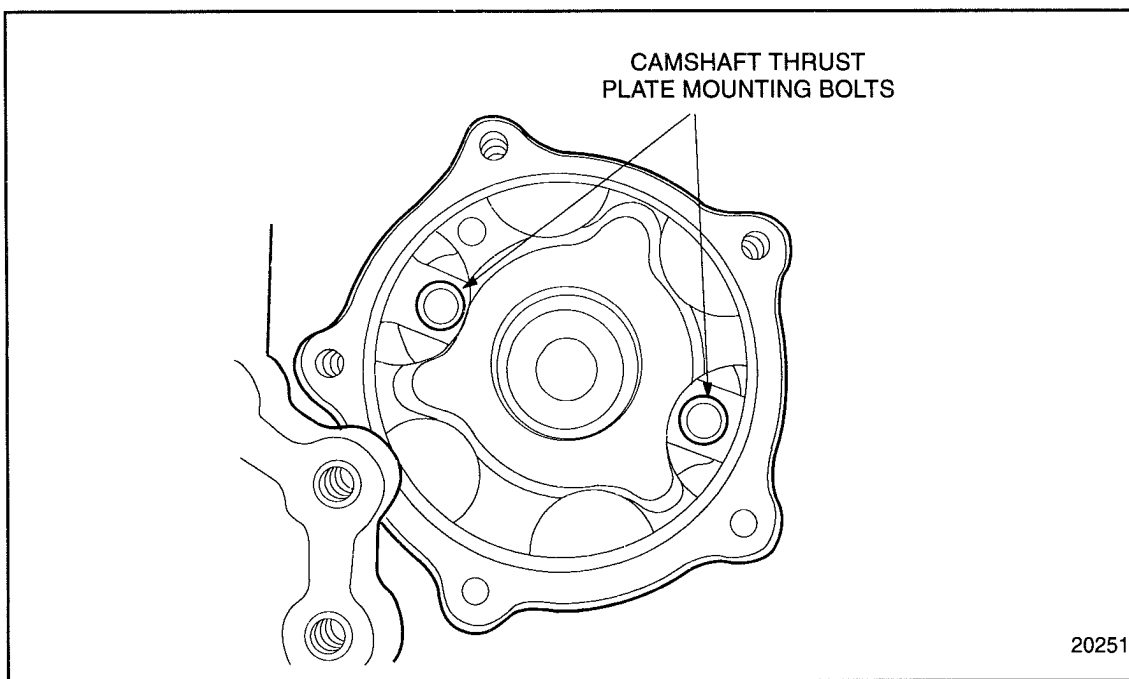

FIGURE 1-278 Camshaft Thrust Plate Bolts
10. Remove the two camshaft thrust plate mounting bolts carefully, to avoid dropping them into the gear case. See Figure 1-278.